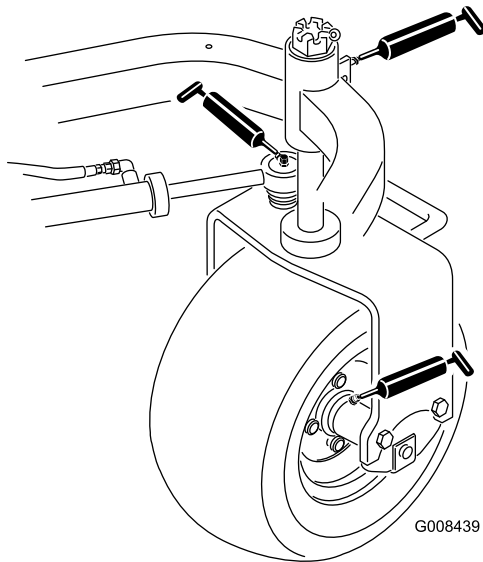

Figure 29
- Rear wheel hub (1) (Figure 29)
- Castor bearing (1) (Figure 29)
- Steering cylinder (2) (Figure 29)